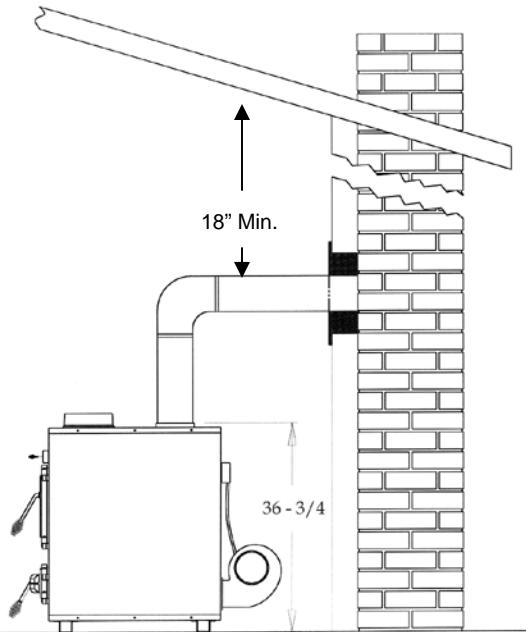

Figure 1 – Installation into a Masonry Flue
1. **Masonry Flue:** If you are considering a masonry flue (see Figure 1), you should contact your local building officials for the proper procedures required in the construction. We recommend that you consult with and have your flue built by a licensed, bonded contractor.